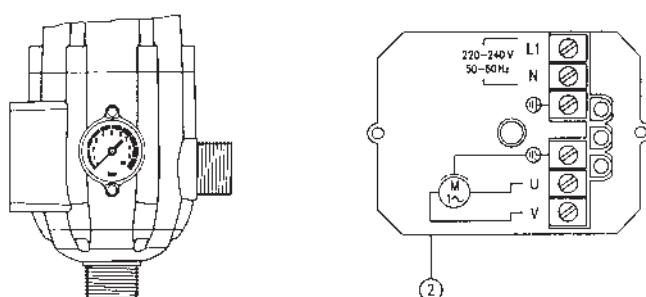

Fig. 3
## ELECTRIC CONNECTION (Fig. 3)
- d) Incorrect electric connection: Verify the connections according to Fig. 3